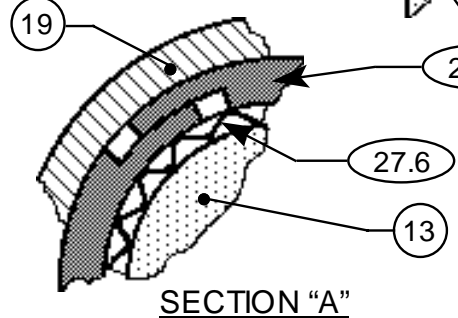
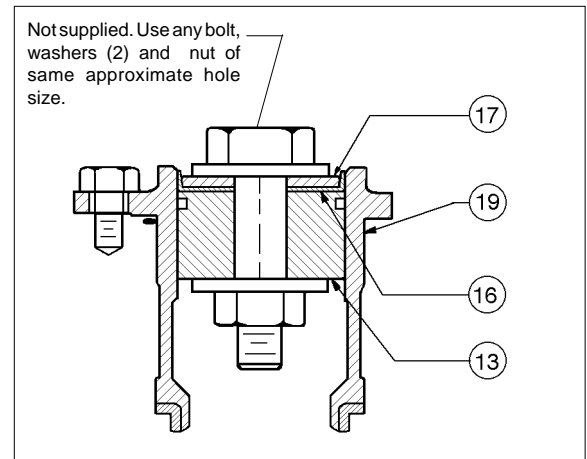

Figure 1: Dynamic Side Seals
Figure 4
A detailed view of the dynamic side seal parts is shown in Figure 1 on the next page.
1. When replacing the optional wiper seal (16), the replacement wiper seal (16) is “pre-formed”. It will, however, require reforming. Reform the wiper seal (16) by pressing the temporary assembly parts into the cage (19) backwards as shown in Figure 4. The wiper seal (16) is best left in this position overnight, but a minimum of two (2) hours prior to reassembly.
2. After forming the wiper seal, remove parts (13, 16, 17) from cage (19) and disassemble the temporary assembly of Step 1. above.
3. Installation of dynamic side seal (27) (See Figure 1):